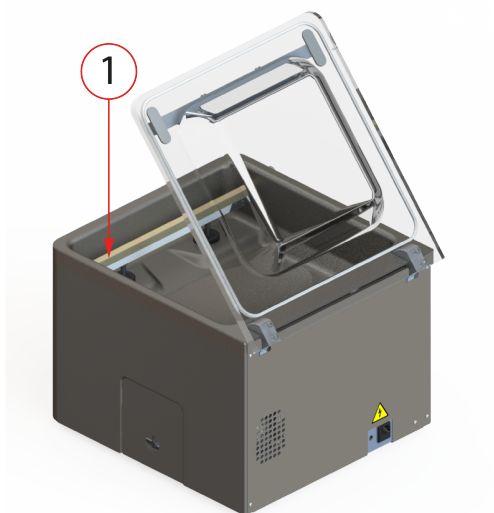

Figure 6: Removing the Sealing Bar
1. Remove the sealing bar by lifting it from the cylinders. See *Figure 6: Removing the Sealing Bar* on page 33.